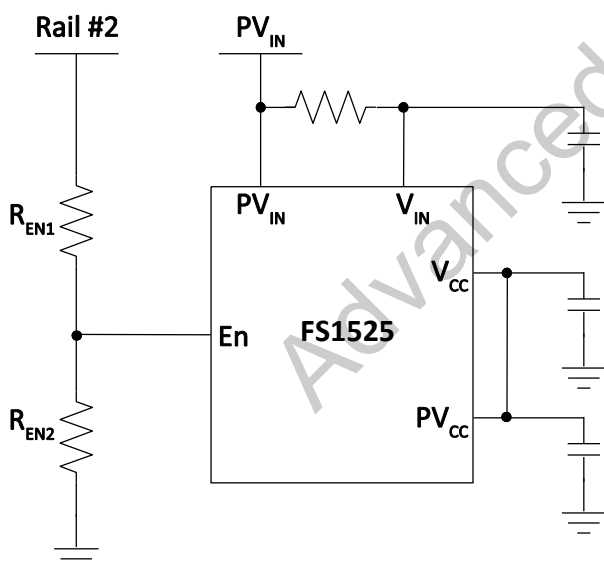

Figure 9 En pin used to monitor other rails for sequencing purposes
- It can be used to monitor other rails for a specific power sequencing scheme (Figure 9).